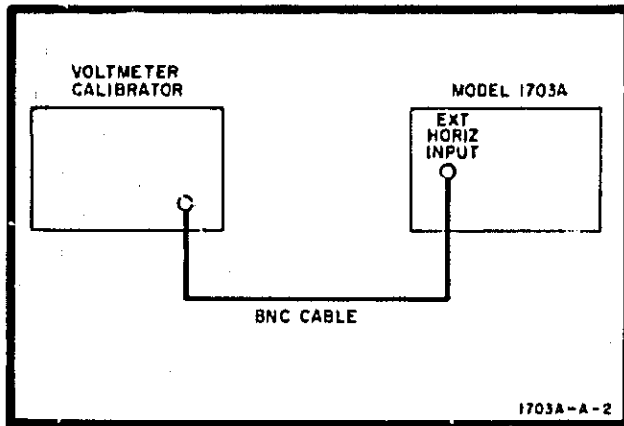

Figure 5-19. Ext Horizontal Deflection Factor Test Setup
a. Set instruments up as shown in figure 5-19.